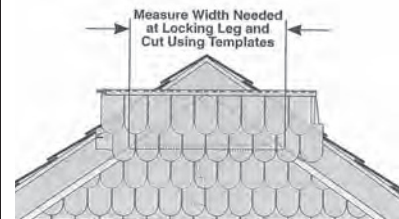

Fig.29
- a. Measure width needed at bottom lock (see Figure 29).